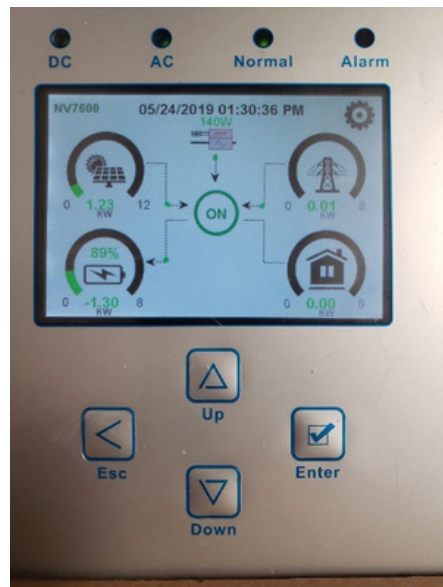

Figure 20
The Operation and Display Panel consist of four (4) indicators across the top, four (4) function keys at the bottom, and an LCD display that indicates the operating status and the input/output power information. See Figure 20.